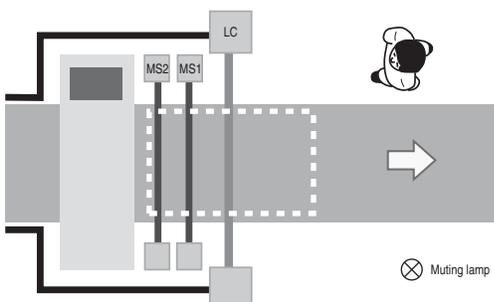

Figure 3: Two-sensor L-type with MSR42
**Components required for a multiple-beam PAC system, see Figure 3:**